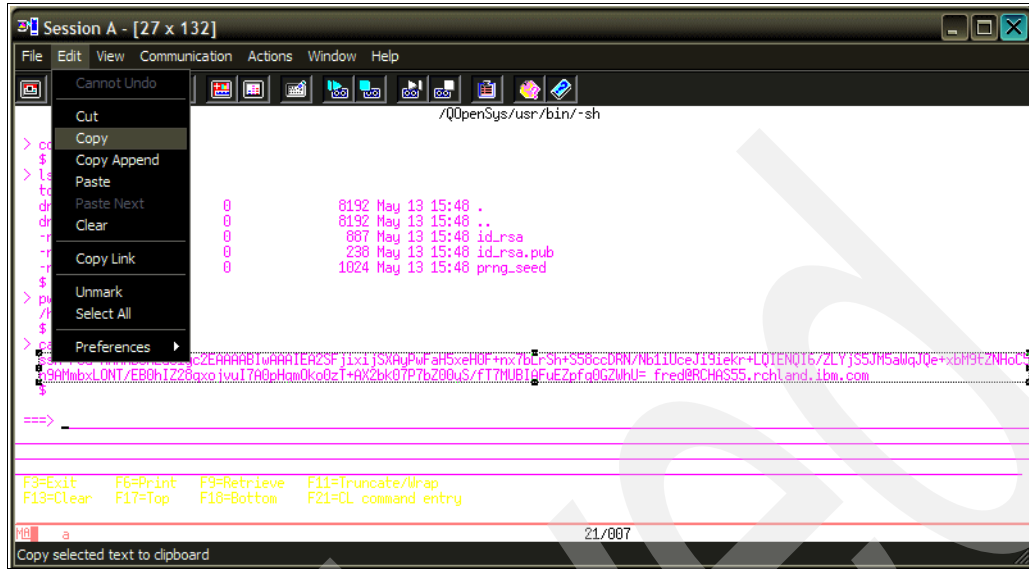

Figure 11-12 SSH Key content
- ▶ Copy the key from 5250 emulator screen as shown in Figure 11-12.